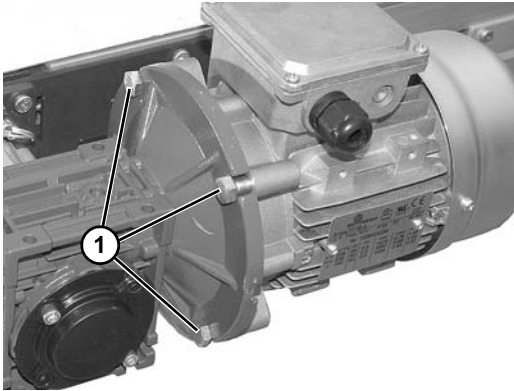

Figure 26
6. Install screws (Figure 26, item 1) and tighten to 65 in-lbs (7.3 N-m).